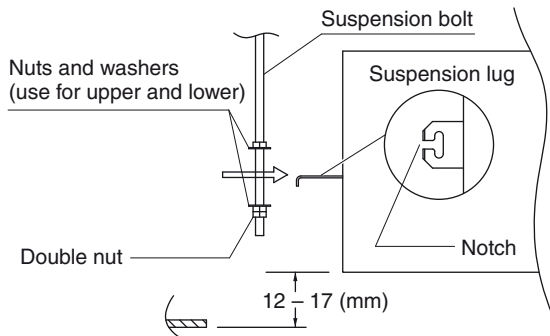

Fig. 3-5
- (3) Thread the 3 hexagonal nuts and 2 washers (field supply) onto each of the 4 suspension bolts as shown in Fig. 3-5. Use 1 nut and 1 washer for the upper side, and 2 nuts and 1 washer for the lower side, so that the unit will not fall off the suspension lugs.
- (4) Adjust so that the distance between the unit and the ceiling bottom is 12 to 17 mm. Tighten the nuts on the upper side and lower side of the suspension lug.
- (5) Remove the protective polyethylene used to protect the fan parts during transport.
- (6) Check with a tape measure or carpenter's level.